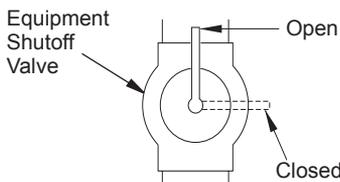

Figure 5 - Equipment Shutoff Valve
1. Close equipment shutoff valve (see Figure 5).
Turn gas shutoff valve clockwise ↻ to the OFF position (see Figure 5, page 8) .